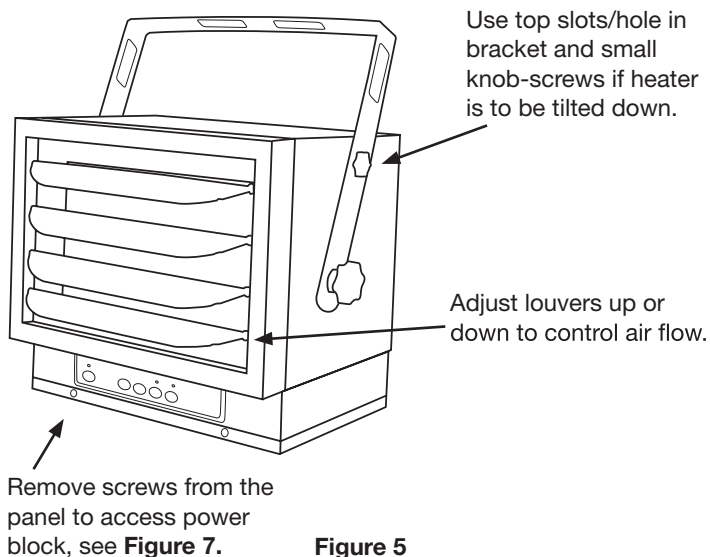

Figure 5
3. Aim the heater horizontally or tilted by aligning the upper bracket holes with the top threaded holes on the heater and secure with the small knob-screws and tighten all. See **Figure 5**.
1. **Tilt the unit-** Loosen the top Small Knob-Screws and thread into provided holes in heater until tight. See **Figure 5**.
2. **Adjust the louvers** in front of the heater as desired. See **Figure 5**.